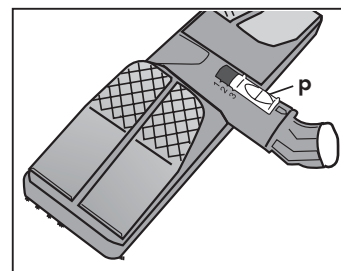

Fig. 13
- bring the slider (p) to the 1 ASSEMBLING position (Fig. 13);